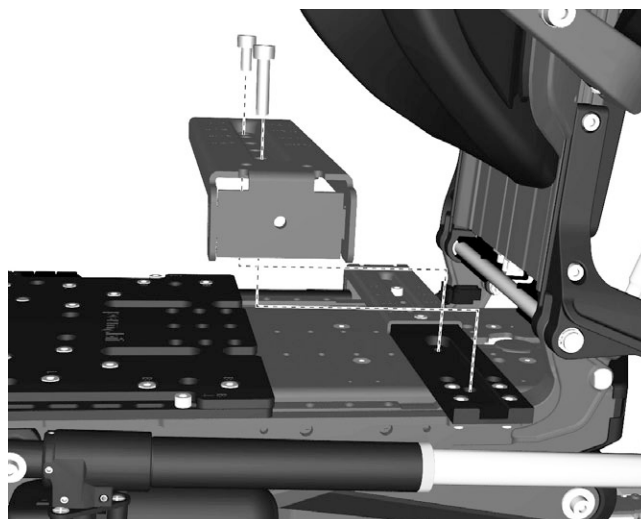

Figure 218. The UniTrack rail brackets is attached with two screws.
7. Assemble the UniTrack rail bracket. It is attached with two screws. See fig. 218.